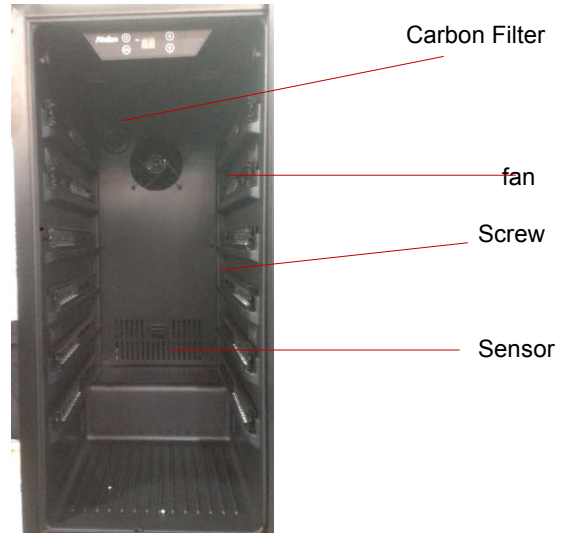

Figure 24
- 1.1 Loosen six screws. Pull out the rear air duct cover. (figure 24)